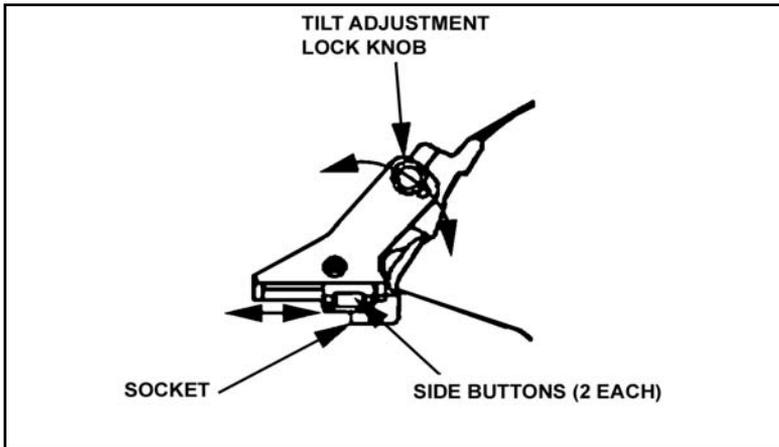

Figure 071-706-0001-7. Tilt and flip-up assembly mechanisms
d. Turn power switch to ON. Adjust the tilt by using the tilt adjustment lock knob (figure 071-706-0001-7) until you obtain a comfortable viewing angle.